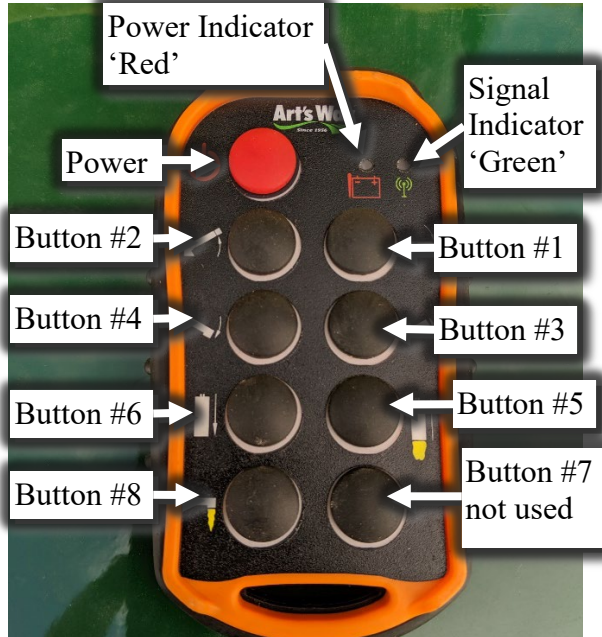
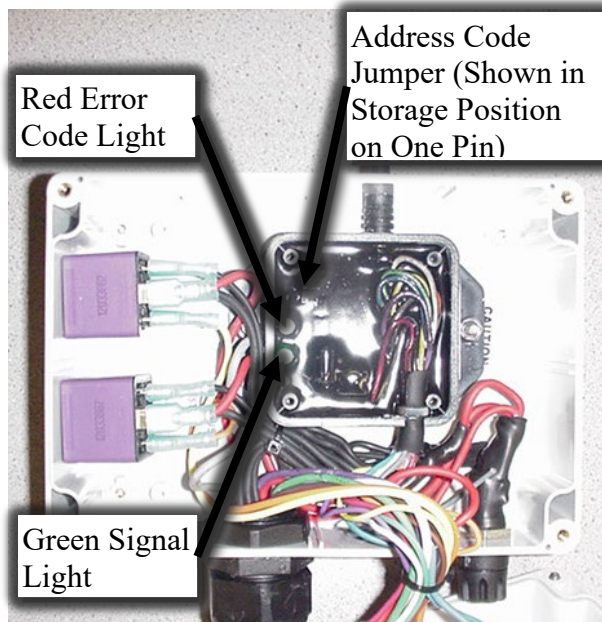

Figure 97 – Macro-Wireless Remote Control Device Button Programming (for Functions see Figure 100).
Figure 98 – Receiver in Complete Control Box with Covers Removed.
NOTE: An internal rechargeable lithium ion battery supplies power for the Macro-Remote Control (Figure 97).
The Remote Control (see Figure 97) is shipped with all button functions in momentary mode and already synchronized with the Receiver (see Figure 98).
To set Discharge Start/Stop button to latching mode the remote must be in configuration mode. Remove the cover from the Receiver so the LED's are clearly visible (see Figure 98).
2. Turn power on Remote Control (POWER button Figure 97).
3. Simultaneously push buttons #1, #4, & #8 (see Figure 97).
6. Push button #8 (Discharge Auger Start/Stop) (see Figure 97).
1. Remove the cover from both the Complete Control Box and the integrated Receiver (see Figure 98).
3. Place the jumper across the both address code pins inside the Receiver (see Figure 98). Both green and red lights will toggle inside the Receiver.
5. On the Remote Control press and hold the POWER button, button #1, & button #8 (see Figure 97). At this point, both lights will blink on the Remote Control transmitter.
1. With the Remote Control power off press and hold buttons #3, #4, and #8 and then POWER (see Figure 97).